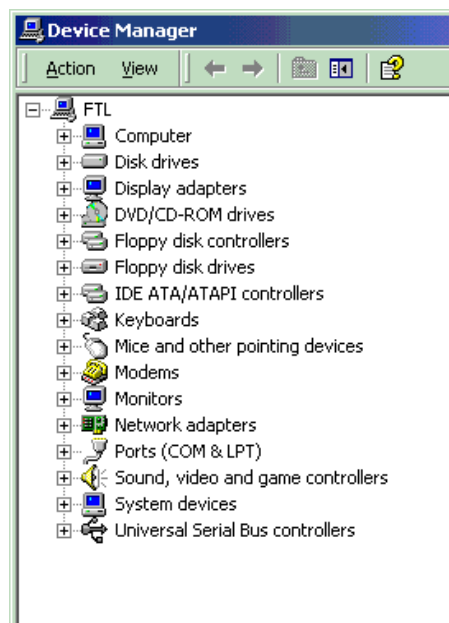

Figure 158. Device Manager Window
2. Click the **Hardware** tab. Then click **Device Manager**. The Device Manager window opens (Figure 158).